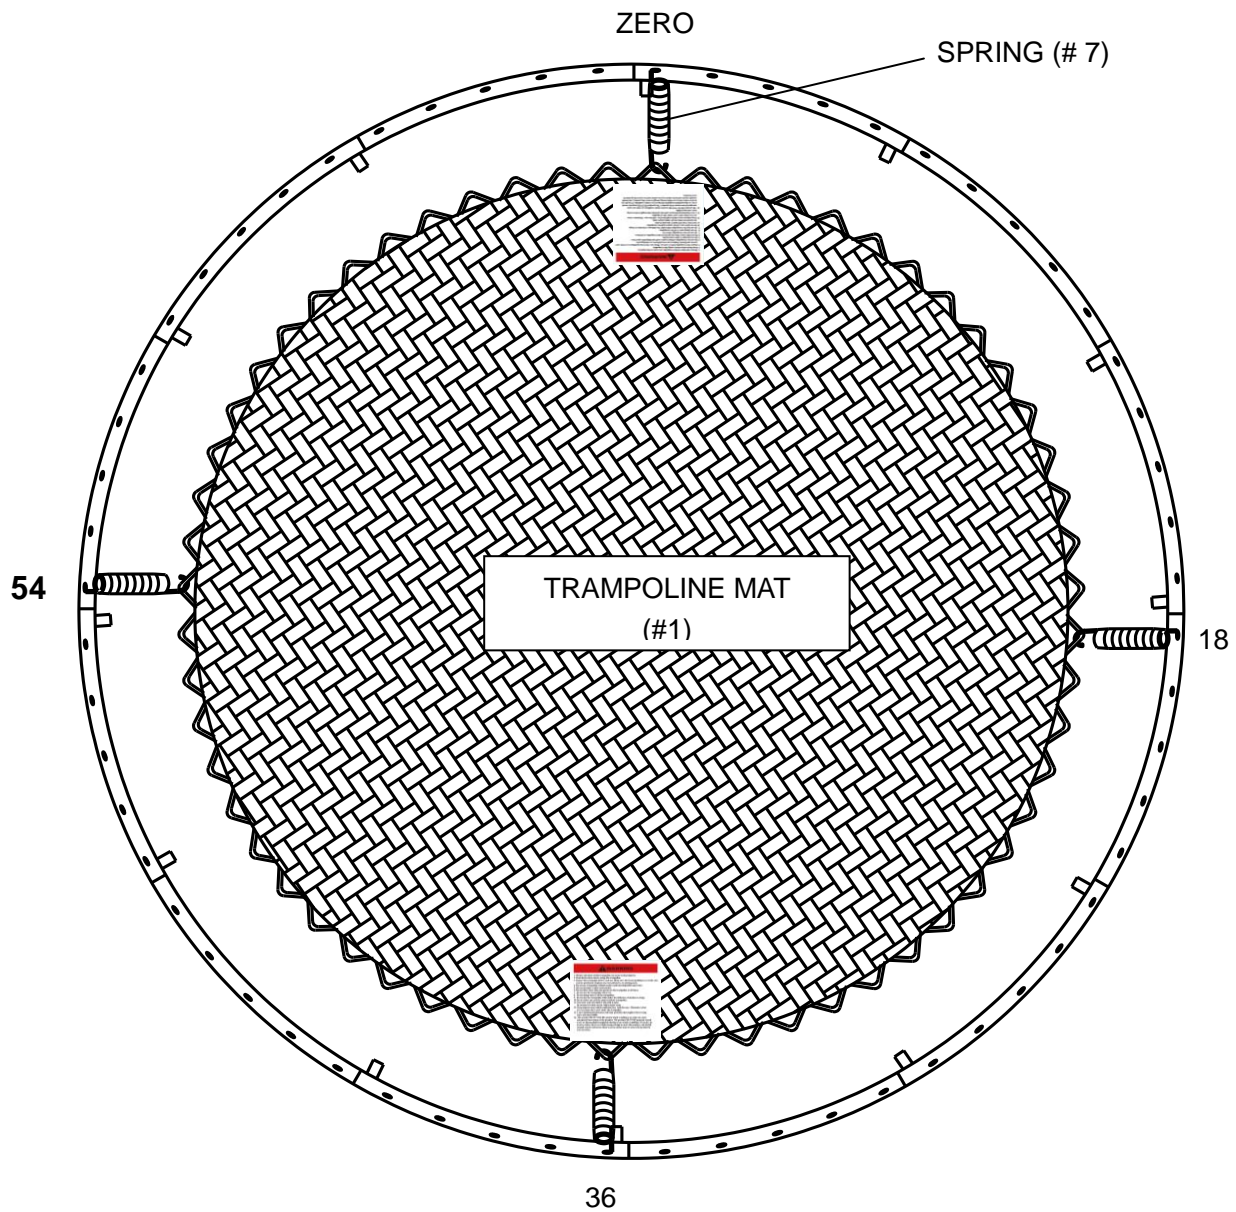

FIGURE 10
- E. Count another 18 holes from point 36 on the Top Rail and Triangle-Rings, you should be at point 54. Attach a spring at this point as shown. At this point in assembly, you should have 4 springs install at ZERO, 18, 36 and 54. This even **distribution** of tension is critical to proper assembly of the rest of the trampoline mat as shown in FIGURE 10.